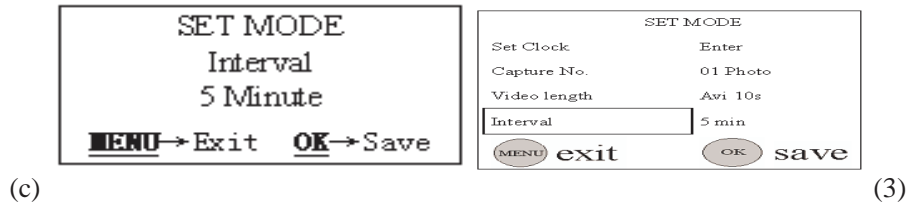

Figure 12: Setting trigger interval time
- 1 In MENU, press the UP or DOWN key until “Interval” appears, as shown in Fig. 12(a) and 12(1).
- 2 Press the RIGHT key until the desired value appears, as shown in Fig. 12(b) and 12(2).
- 3 Press the OK key to save or press the MENU key to cancel and exit. After pressing the OK key, the selected value will no longer be highlighted, as shown in Fig. 12(c) and 12(3).